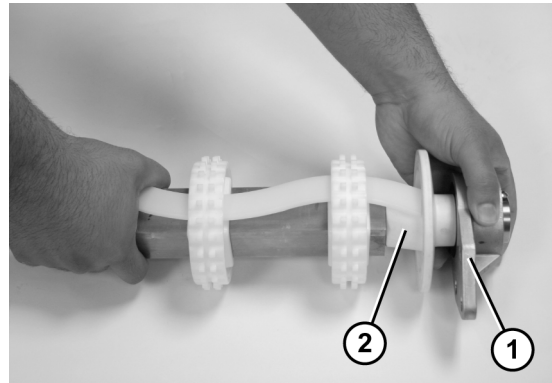

Figure 60
- Slide the 3 hole flange with bearing (**Figure 60, item 1**) and flanged puck (**Figure 60, item 2**) off the drive spindle.